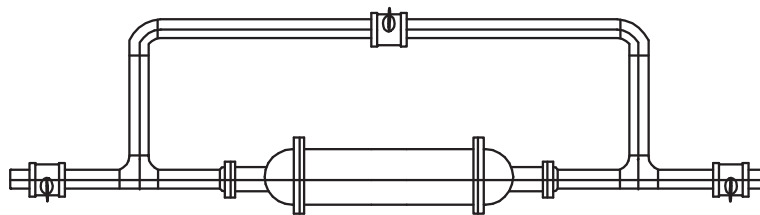

Fig. 17-14
4. Apply the commands introduced in this chapter to create the piping drawing shown in Fig. 17-14.